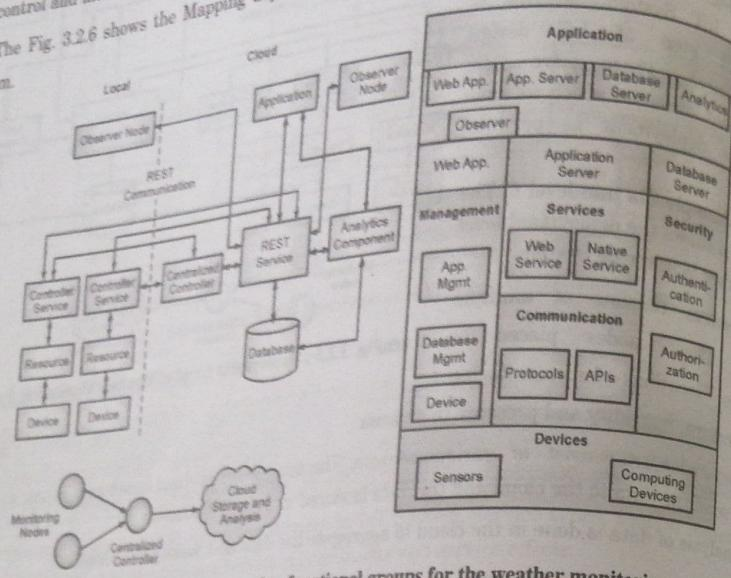

Fig. 3.2.6 : Mapping deployment level to functional groups for the weather monitoring system
- The Fig. 3.2.6 shows the Mapping deployment level to functional groups for the weather monitoring system.